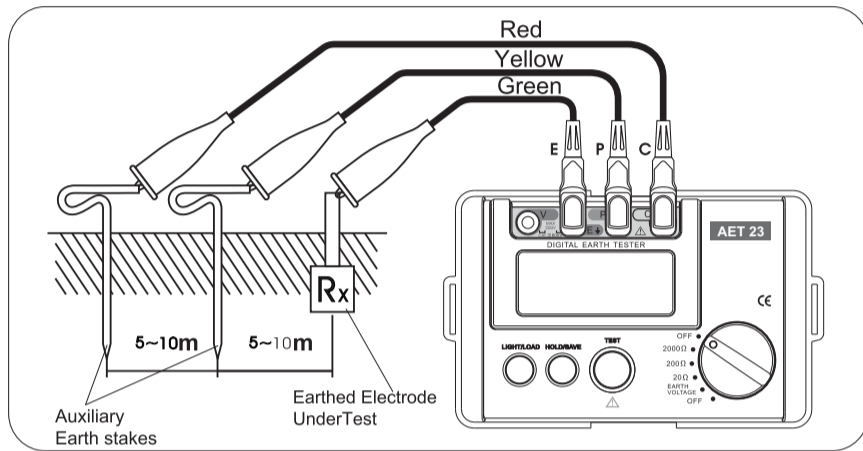

Figure2
- a. Place 2 ground stakes deep into the soil. Earth electrode(E), probe(P) and auxiliary earth (C) should be in a straight line and 5-10m apart from each . See Figure 2 for the connection.